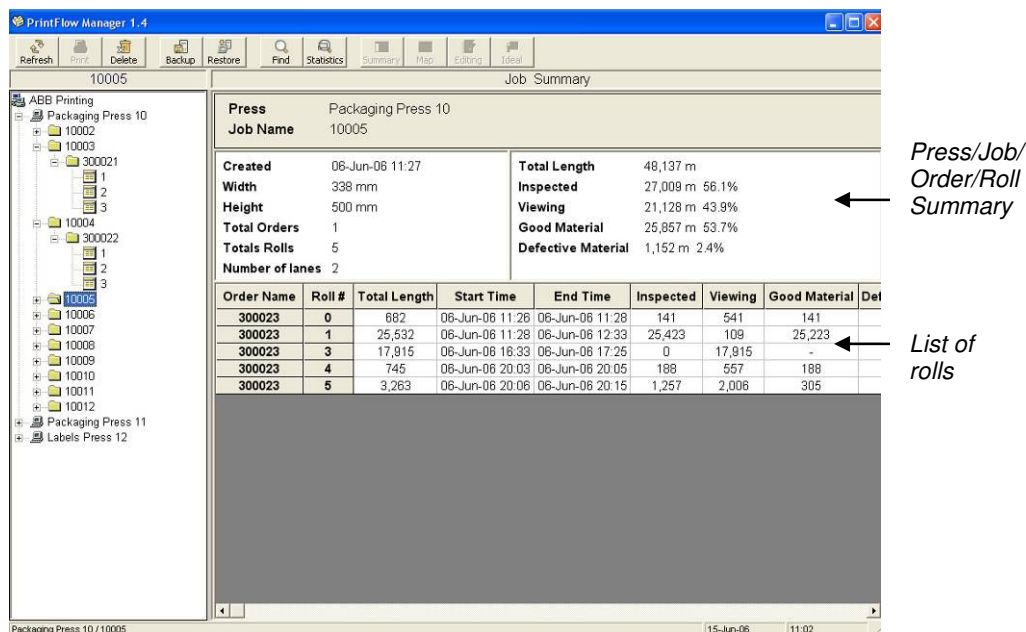

Figure 6: Report Summary layout
- A list of recently printed rolls (from the current Press, Job, or Order starting with the most recent). See Figure 6